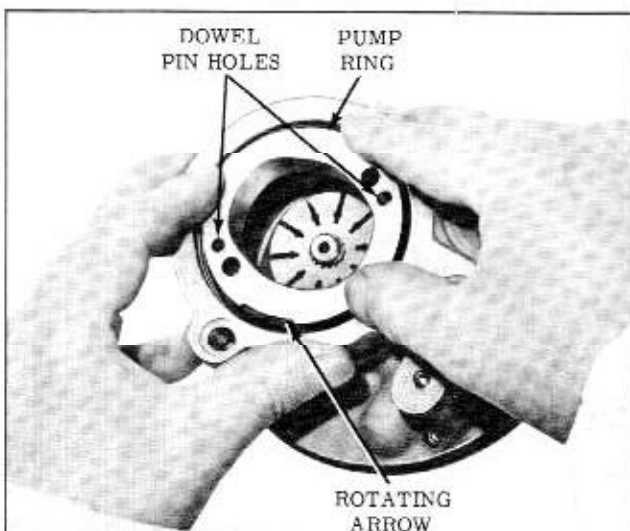

Fig. 4-61 Installing Pump Ring
5. Install pump ring on dowel pins with direction of rotation arrow to the rear of the pump housing. (Fig. 4-61) Rotation is clockwise.